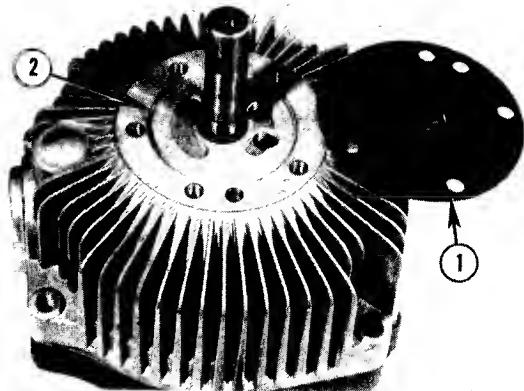
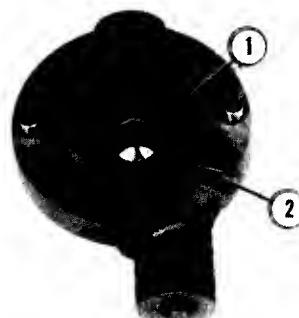

FIG. 4.43-PUMP PLATE & O-RING
FIG. 4.44-CHARGE PUMP BUSHING & O-RING
6. Remove pump plate, No. 1, Fig. 4.43, noting "O"-ring, No. 2.
b. It is recommended that new "o"-rings be installed on both sides of the pump plate during reassembly. One "o"-ring is located in groove, No. 2, Fig. 4.43 and the other is in groove, No. 2, Fig. 4.44.
c. Check for excessive wear between bushing, No. 1, Fig. 4.44, in charge pump and input shaft. Specified clearance is .0013" to .0033". Replace parts as necessary.